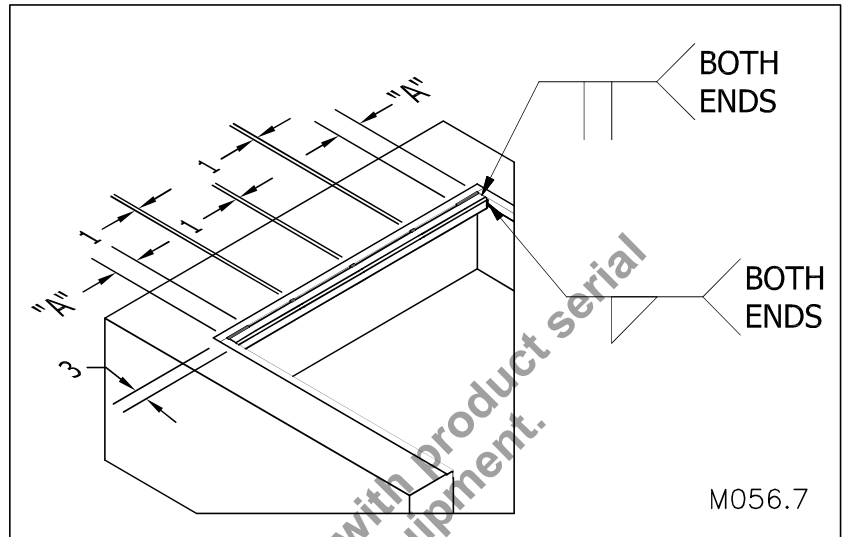

Figure 20: Welding the 3 X 3 Square Tubing to the Curb Angles
3. Weld the ends of the square tubing to the side curb angle (see “Figure 20: Welding the 3 X 3 Square Tubing to the Curb Angles” on page 16). Add vertical welds at the ends of the tube between tube surface and side curb angle surface.